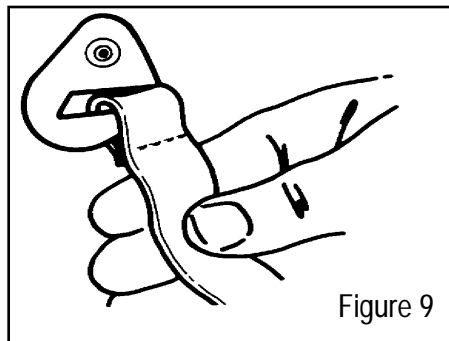

Figure 9
1. Attach chin strap to inner shell by sliding chin strap loop over hook as shown in Figure 9.